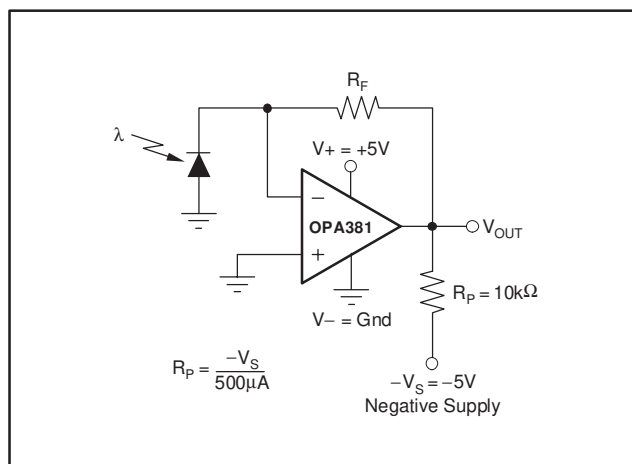

Figure 3. Amplifier with Pull-Down Resistor to Achieve $V_{OUT} = 0V$
- (1) High temperature operating life characterization of zero-drift op amps applying the techniques used in the OPA381 have repeatedly demonstrated randomly distributed variation approximately equal to measurement repeatability of $1\mu\text{V}$. This consistency gives confidence in the stability and repeatability of these zero-drift techniques.
- (2) Tested with output connected only to R_P , a pulldown resistor connected between V_{OUT} and $-5V$, as shown in Figure 3. See also **Applications** section, *Achieving Output Swing to Negative Rail*.
- (3) Transimpedance frequency of 250kHz.
- (4) Time required to return to linear operation.
- (5) From positive rail.
The OPA381 performance results from an internal auto-zero amplifier combined with a high-speed amplifier. The OPA381 has been designed with circuitry to improve overload recovery and settling time over that achieved by a traditional composite approach. It has been specifically designed and characterized to accommodate circuit options to allow 0V output operation (see Figure 3).
The output of the OPA381 can be made to swing to 0V, or slightly below, on a single-supply power source. This extended output swing requires the use of another resistor and an additional negative power supply. A pulldown resistor may be connected between the output and the negative supply to pull the output down to 0V; see Figure 3.